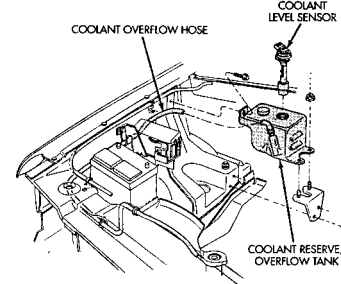

Fig 6
2. Remove the coolant reserve/overflow bottle from the right side of the firewall (one bolt & two nuts). (Fig. 6 - Top of Pg. 5)